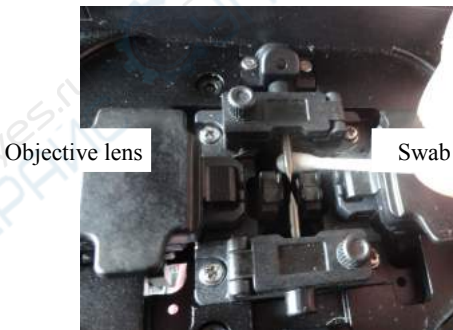

Fig4-7 Cleaning Objective Lenses
(1) Before cleaning the objective lenses, always turn off the splicer.
(2) Gently clean the lens surface with an alcohol-impregnated thin cotton swab as shown in Fig.4-7. Using a cotton swab, starting in the center of the lens, move the swab in a circular motion until you spiral to the edge of the lens surface. Remove excess alcohol from the mirror surface with a clean dry swab.